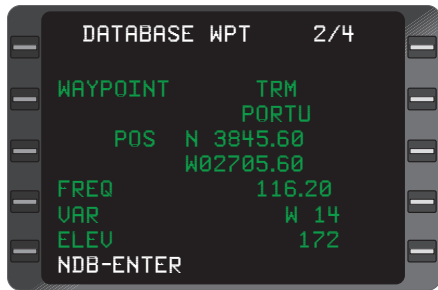

Figure 2-78
*NOTE: If the waypoint has a duplicate identifier in the database, for another location, the closest waypoint to the aircraft position will be shown and the country code will be displayed beneath the waypoint identifier. (Figure 2-78)*
The procedure for accepting the waypoint from the Navigation Data Base is to depress the **ENTER** Key. (Figure 2-78)